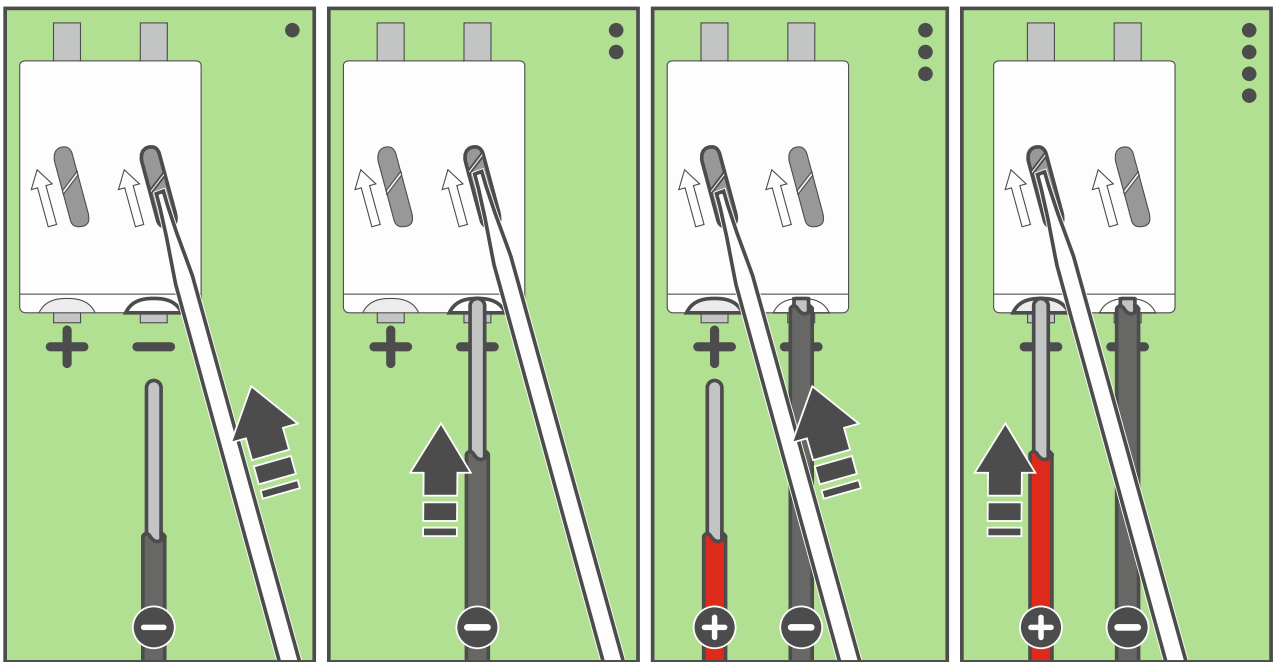

Fig. 3. Connecting the power wires.
12. If the APS-055 power supply is to be used, connect the power wires to the “+” and “–” terminals (Fig. 3). Use a 1.8 mm flathead screwdriver.